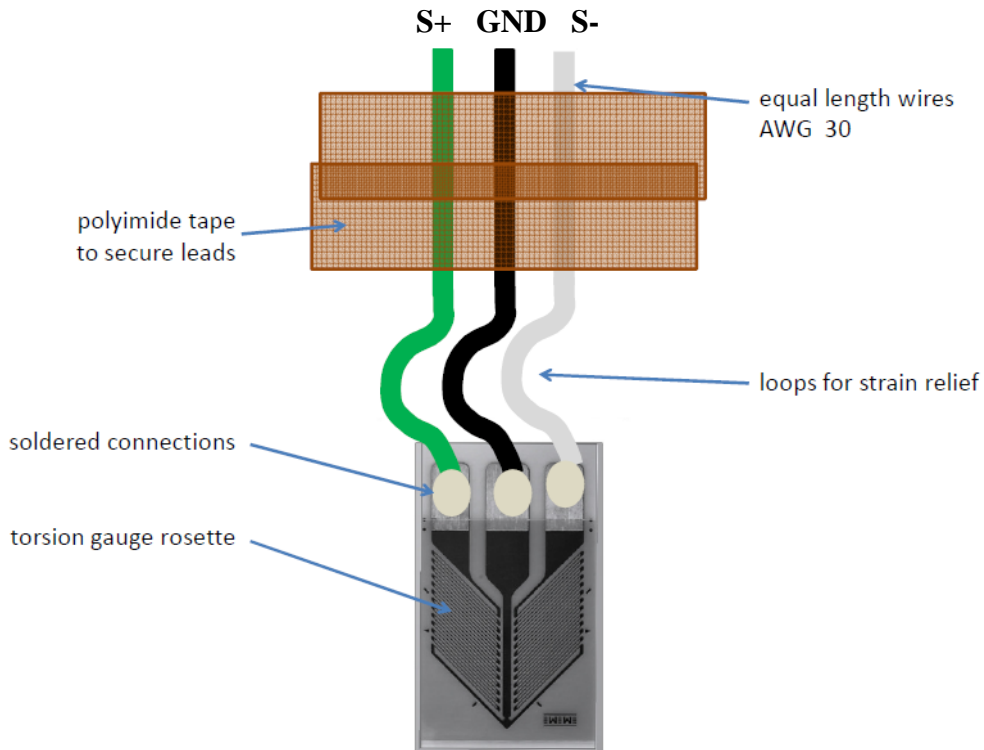

Figure 3 – Half bridge wiring set-up.
- Connect the strain gauge leads to the SG-Link[®] or SG-Link[®]-OEM as shown in *Table 1* and *Figure 3* and *Figure 4* respectively.